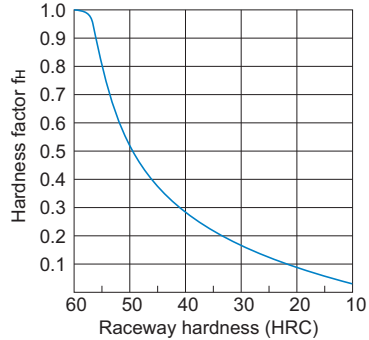

Fig.11 Hardness Factor (f_H)
- C : Basic dynamic load rating (N)
- P_c : Calculated load (N)
- f_H : Hardness factor (see Fig.11 on A1-77)